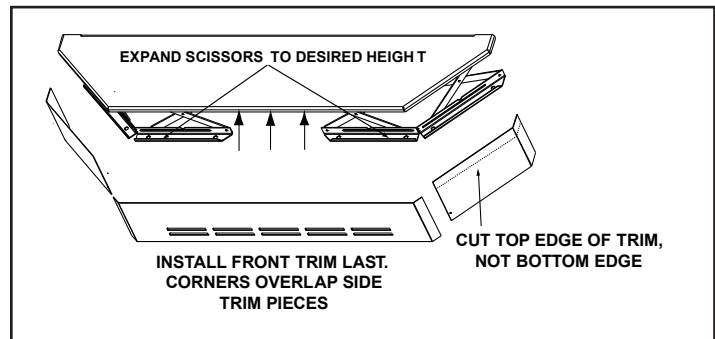

Figure 23.2
2. Expand scissors to desired height. Tighten screws to hold in place using Phillips head screw driver. **Figure 23.2.**